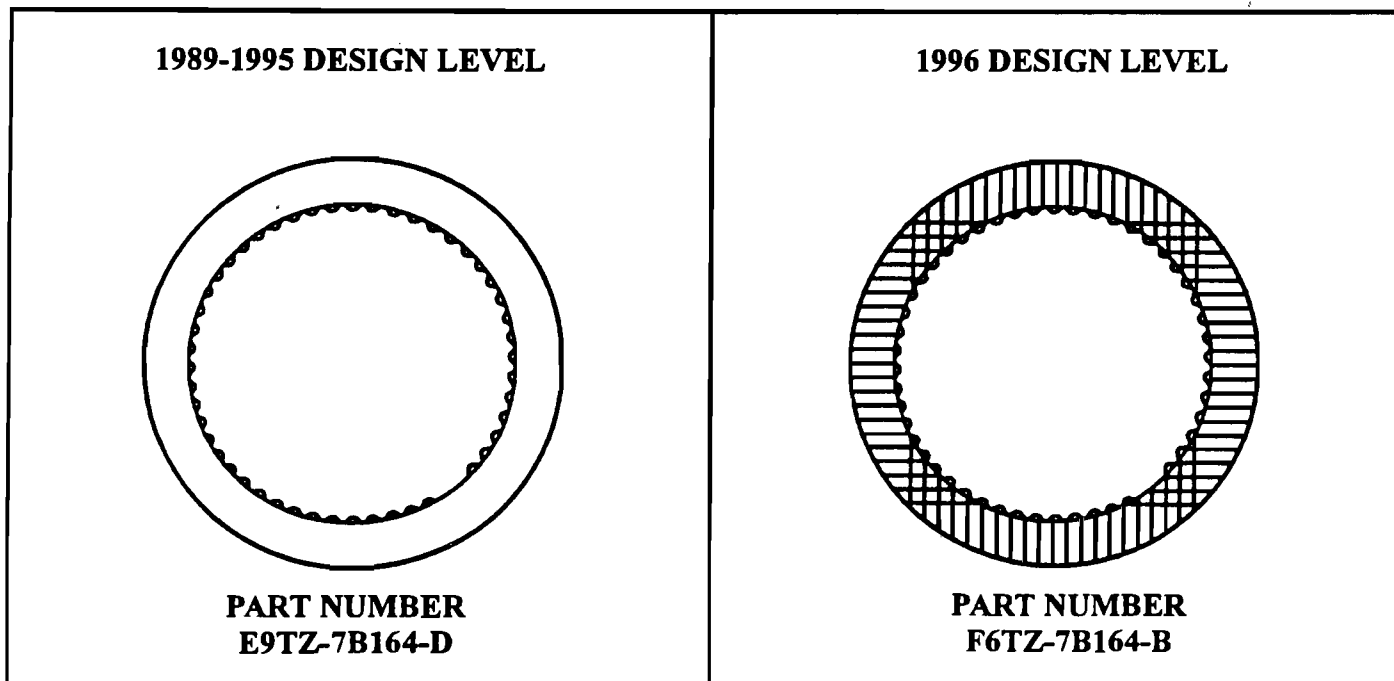

Figure 1
CHANGE: The Electronic Pressure Control (EPC) solenoid changed at the start of production for all 1993 models of the AOD-E/4R70W transmissions, and care must be taken to use the proper EPC solenoid retainer (See Figure 1).
- (1) **EPC SOLENOID** - The external dimensions on the solenoid changed in the area where the retainer goes over the solenoid to hold it into the case, in addition to internal changes to improve the durability. The previous design solenoid is no longer available. Refer to Figure 1, which shows you the current EPC Solenoid F3AZ-7G383-A, which comes with the retainer for 1992-1995 model transmissions.
- (2) **EPC SOLENOID RETAINER** - Changed in 1993 to accommodate the new design solenoid, and must be used with the new design solenoid on 1992 models (See Figure 1).